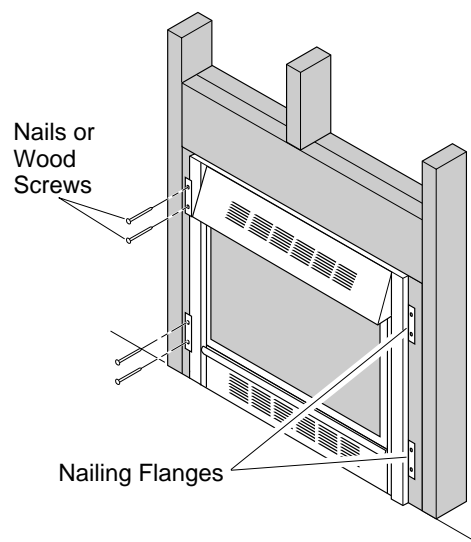

Figure 14 - Attaching Fireplace to Wall Studs
- Attach fireplace to wall studs using nails or wood screws through holes in nailing flange (see Figure 14).